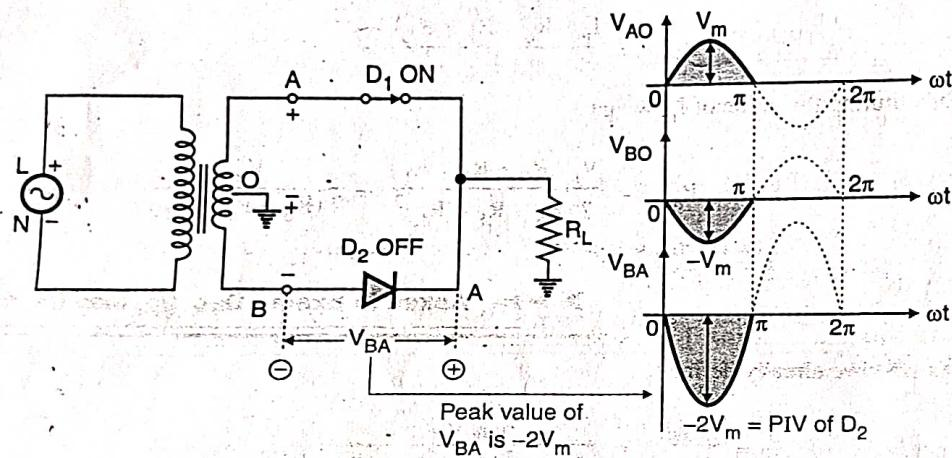

Fig. 11.4.6 : Peak inverse voltage for FWR
- To obtain the value of PIV, refer Fig. 11.4.6, which is the equivalent circuit of FWR in the positive half cycle.
- Fig. 11.4.6 shows that in the positive half cycle ($0 - \pi$) the instantaneous voltage across D_2 is V_{BA} . As shown in the waveforms the maximum negative value of V_{BA} is $-2V_m$.